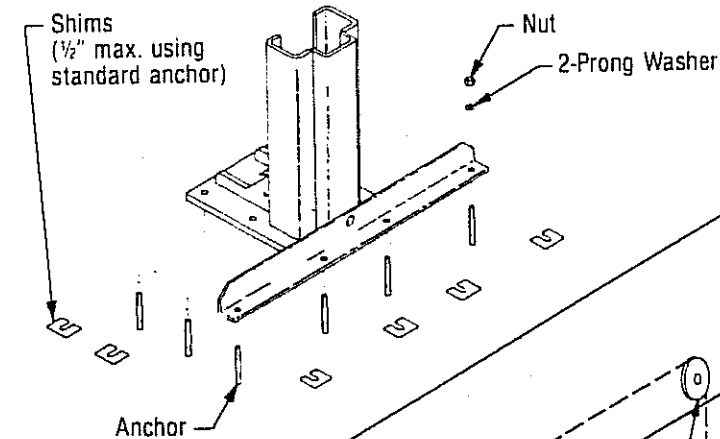

FIG. 4
4. Using shims provided, shim column base to plumb columns, first front and rear then side to side. Level column bases. Maximum shim thickness is $\frac{1}{2}$ ", Fig. 4. Recheck column for plumb. Reshim if necessary. Torque anchor bolts per Fig. 3. If anchors do not hold concrete must be replaced. Replace 4'-4" x 2'-9" x 6" pad under each column base keyed under existing floor.